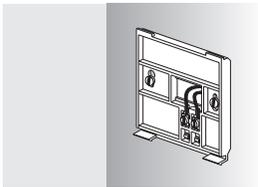

figure 5-5
1. Connect the wires onto the mounting plate by fitting them behind the clamps (refer to figure 5-5). **It is not important which wire is connected to which clamp.**